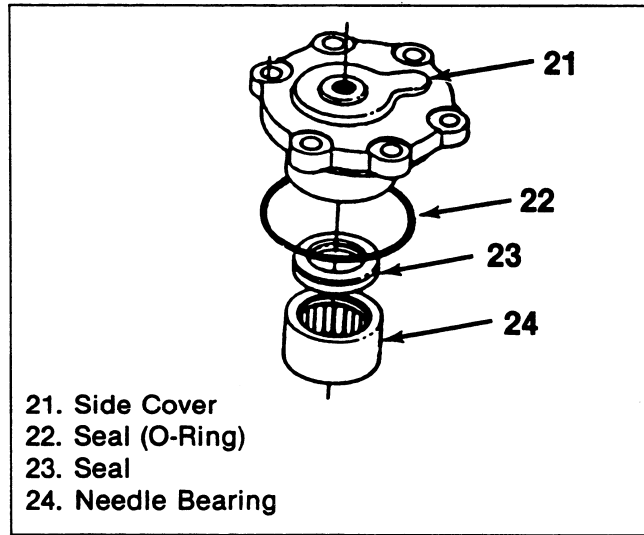

Figure 10. Sector Shaft Side Cover
Side Cover Disassembly (Figure 10)
**Inspect (Figure 10)**
- Side cover (21) for cracks or damage to the sealing surface.
**Assemble (Figure 10)**
1. Seal (23) into side cover (21).
2. Press needle bearing (24) into side cover (21).
3. Seal (O-ring) (22) onto side cover (21).